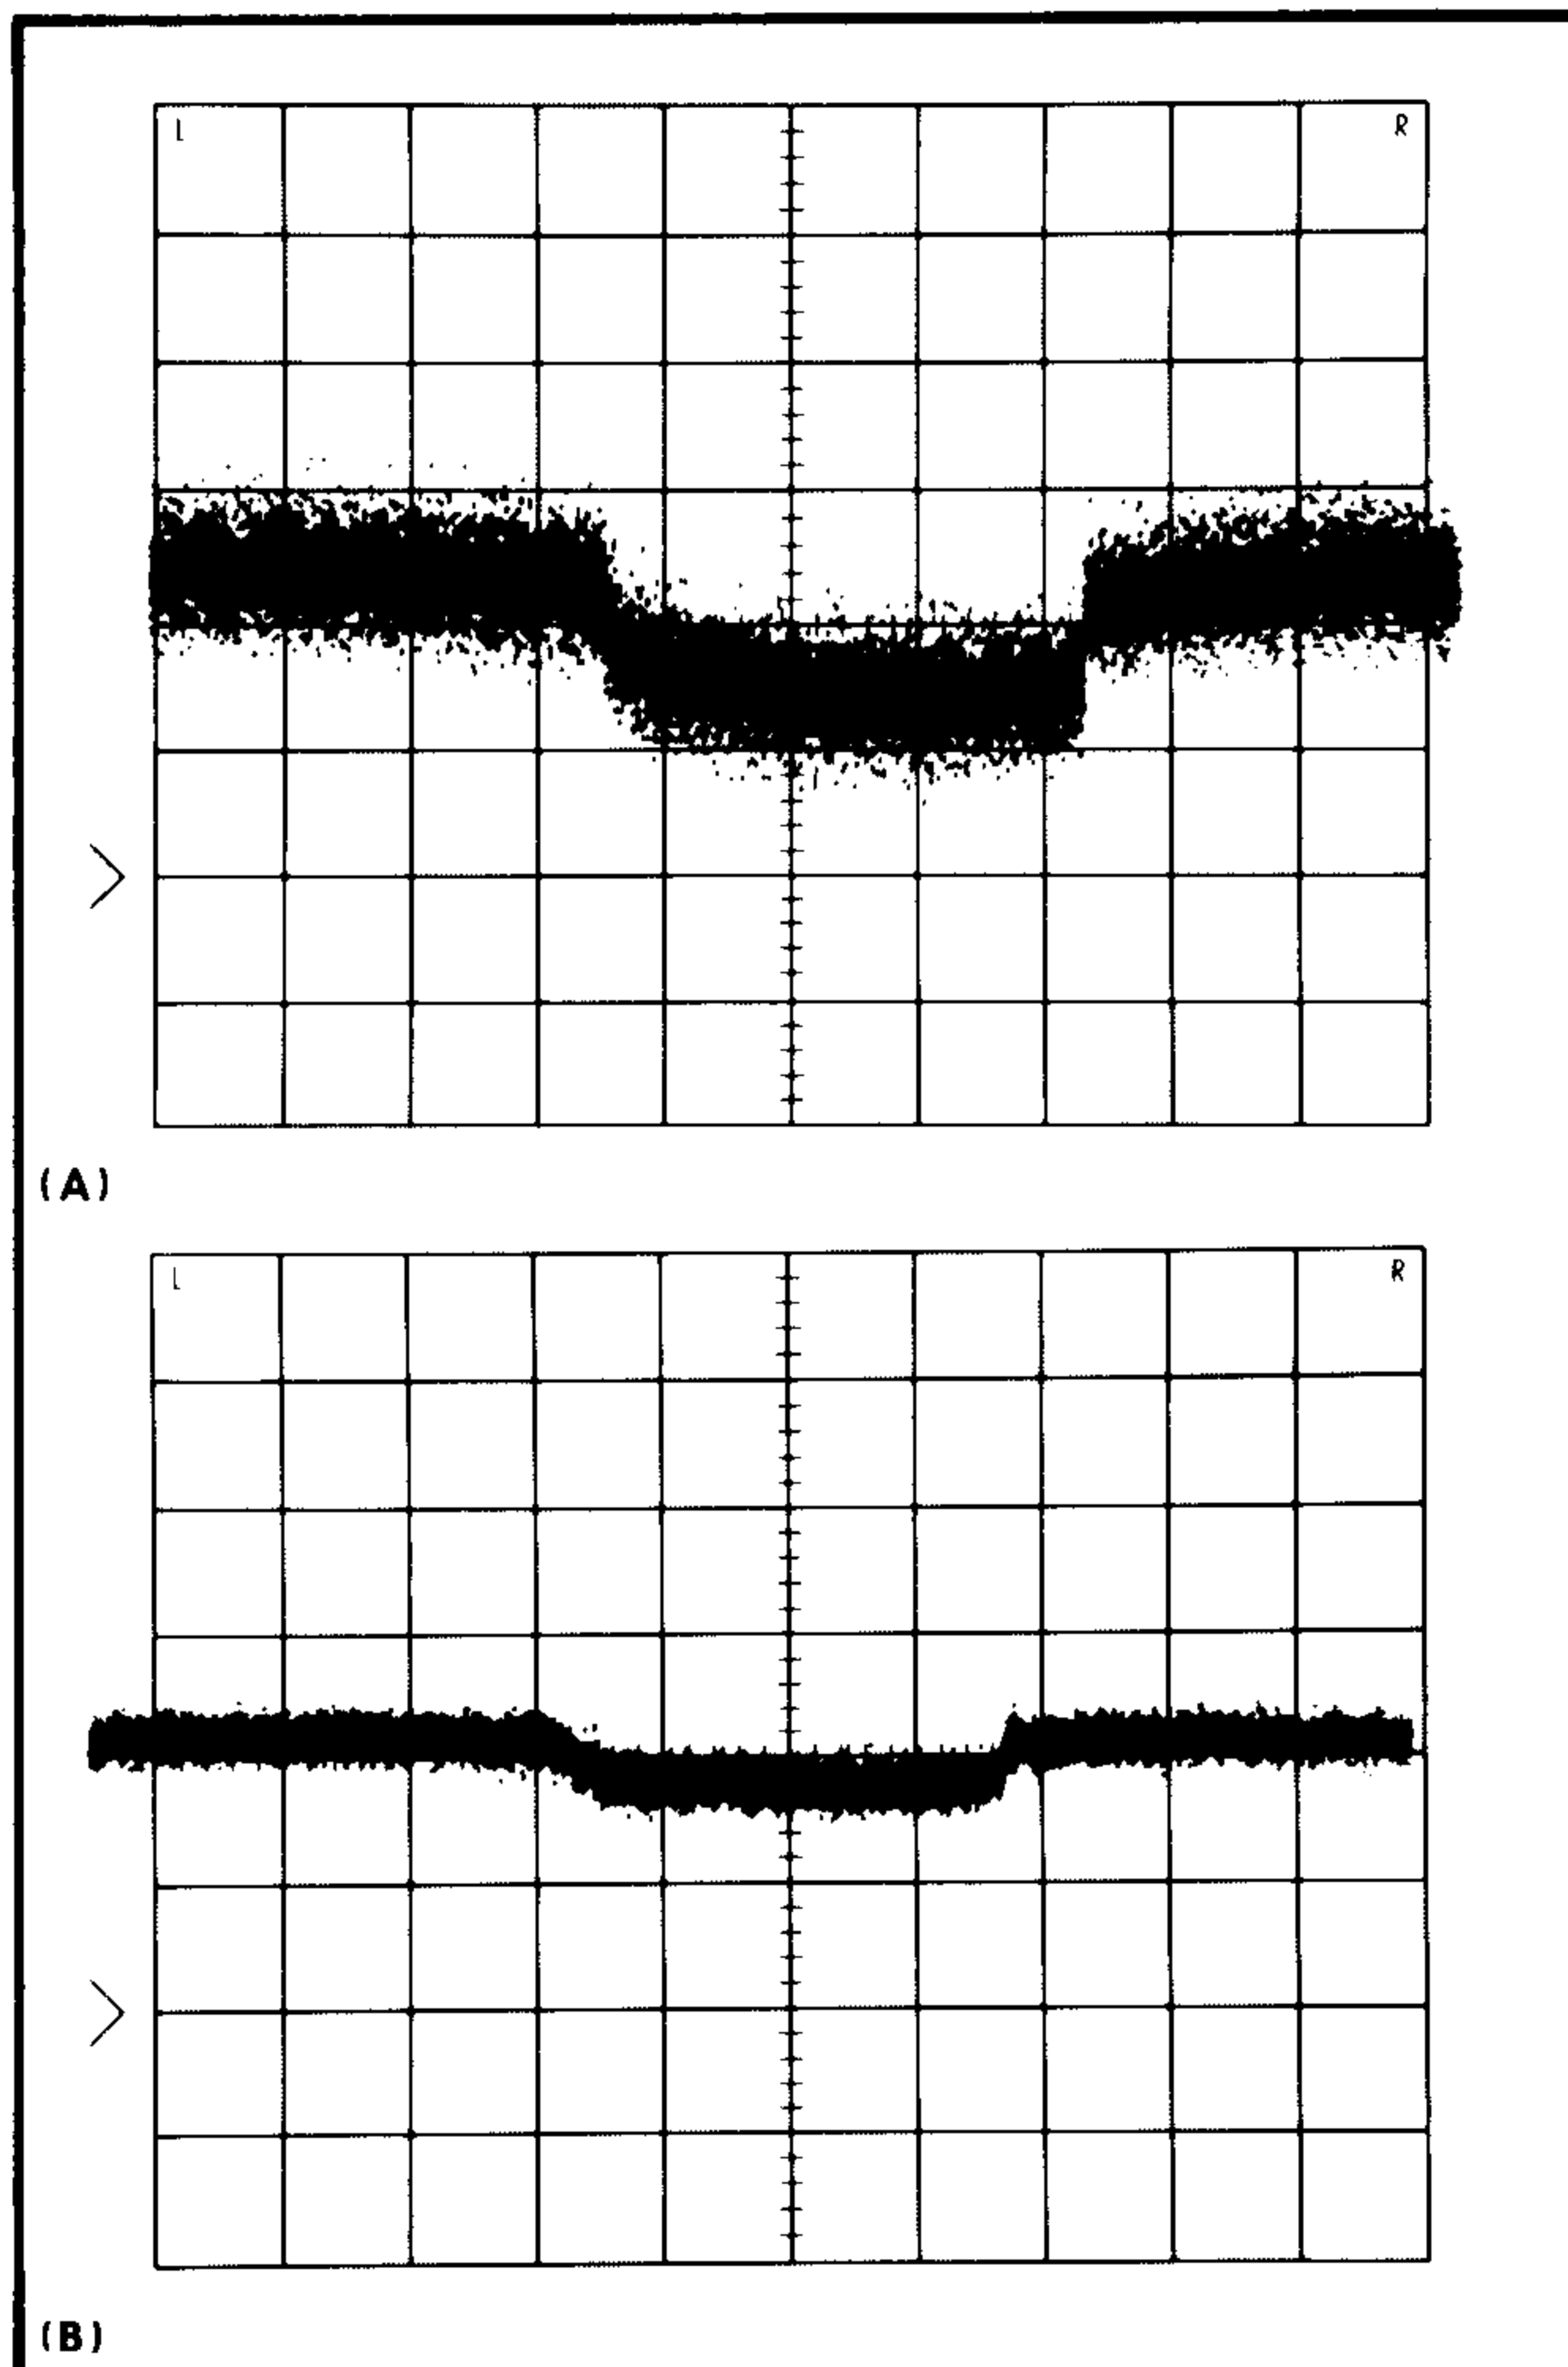

Fig. 6-20. Typical CRT display for Tangential Noise Measurement (A) Unity Loop Gain (B) Smoothed.
- f. Adjust the Square Wave Generator + Transition Amplitude so that 10% of the dots on the display fall above a given horizontal line and 10% of the dots on the display fall below the same horizontal line. See Fig. 6-20(A).
- j. Adjust the Square Wave Generator + Transition Amplitude as in step f. See Fig. 6-20(B).